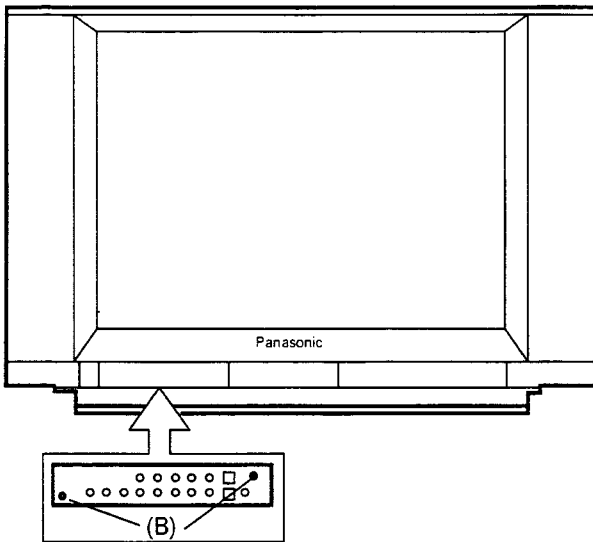

Fig.5 Abb.5
1. Remove the 2 screws (B) as shown in Fig.5.